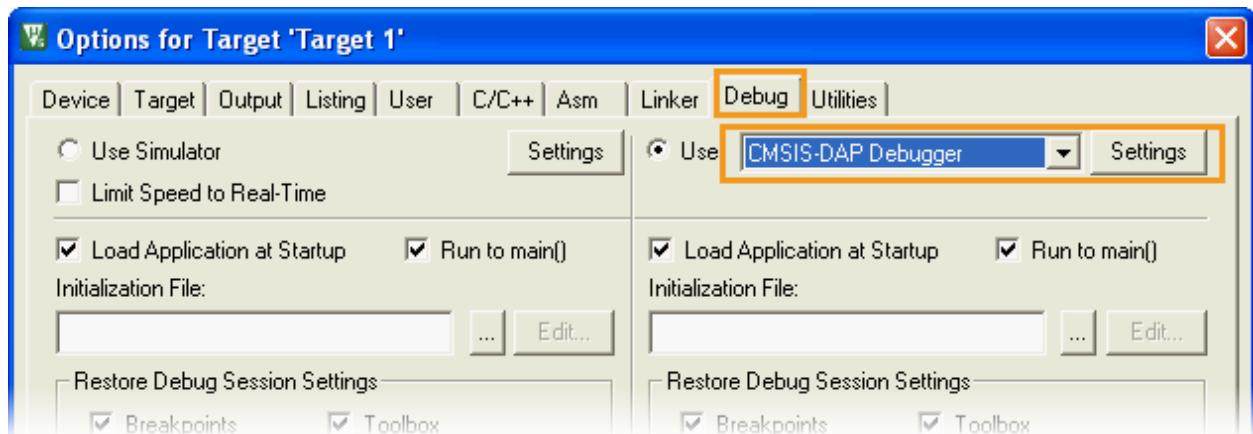

Figure 53. Select the CMSIS-DAP Debugger interface
- 5) Navigate to the **Debug** tab to select the debug interface. The HDK supports the CMSIS-DAP interface, so here you can select **CMSIS-DAP Debugger** (see Figure 53).